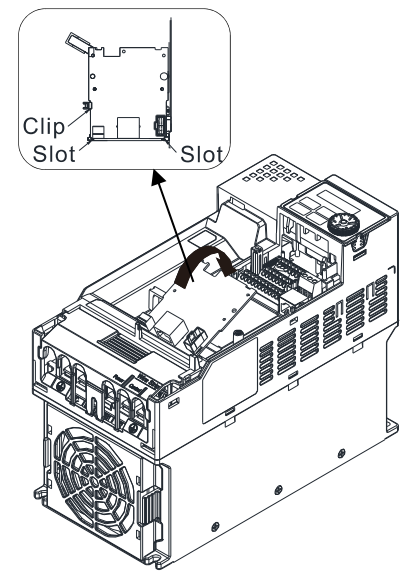

Figure 8-34
3. Assembling option cards: Place the terminal block and connector of the option card upward. Fix the front end of the option card to the slots, and then press another side, as shown in the Figure 8-34.